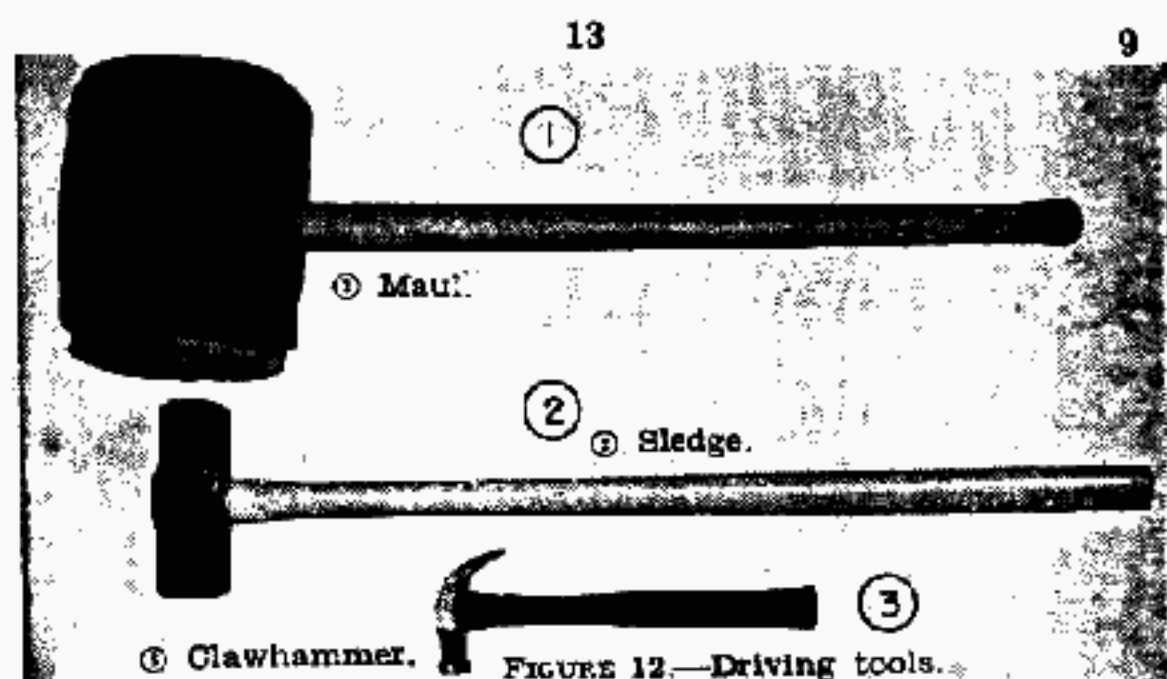

FIGURE 12.—Driving tools.
h. Sledge (see fig. 12).—The sledge is used for heavy driving, rock-breaking, striking rock drills, and for shop and general construction work. It should be swung like a pick. A full stroke gives best results.
i. Maul (see fig. 12).—The maul is a heavy, wooden driving tool, and should be used only to drive wooden stakes and posts. It is swung like the sledge.